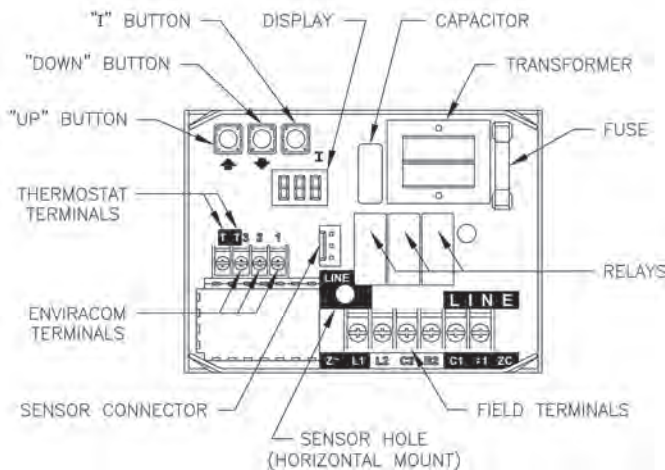

Figure 26: L7248 Circuit Board Layout - Horizontal Mount
2. PRESS RED RESET BUTTON on front of burner cover (Beckett, Riello burners), hold button for one (1) second and release to reset primary control.
3. This boiler is equipped with **L7248** electronic aquastat controller, set High Limit (HL) at 180°F. This temperature can be varied to suit installation requirements. L7248 controller has the High Limit adjustment range from 180°F to 240°F (82°C to 116°C). High Limit Differential is fixed at 15°F (8°C).
4. ADJUSTING AQUASTAT CONTROLLER SETTINGS. To discourage unauthorized changing of Aquastat settings, a procedure to enter the **ADJUSTMENT** mode is required. To enter the **ADJUSTMENT** mode, press the **UP**, **DOWN**, and **I** buttons (refer to Figure 26) simultaneously for three seconds. Press the **I** button until the feature requiring adjustment is displayed: